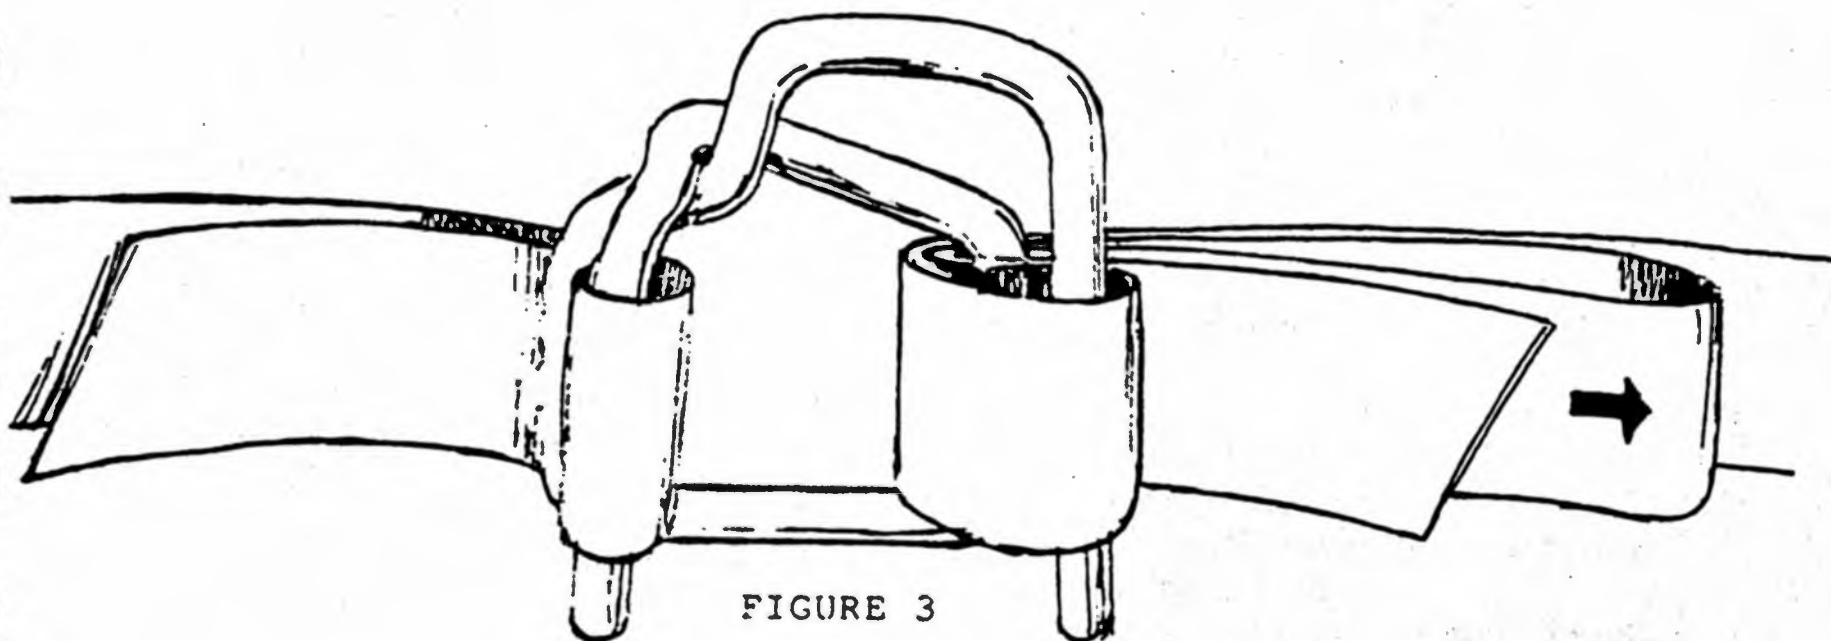

FIGURE 3
- 6.5.4. Repeat this for the right hand side. Note that band can be fitted to allow easy removal and refitting if looped as per right hand side in Figure 3.
- 6.5.7. To tension each band, press the band hard against the fiberglass on the right hand side rear corner and pull hard on the loop marked with an arrow in Figure 3.